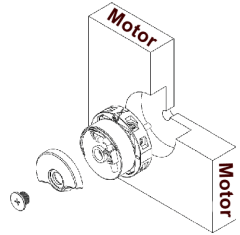

Figure 3-3
- 1) Remove the front cover of the encoder to expose the conical shaft, as shown in Figure 3-3.